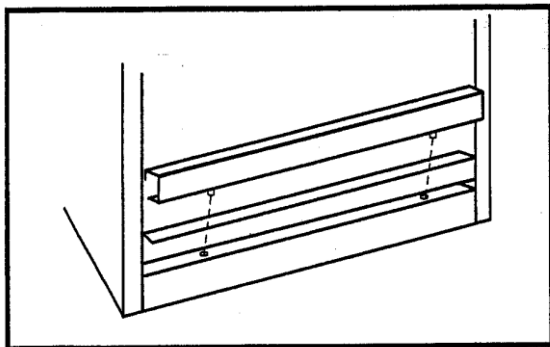

Figure 4
1. Remove the front panel just below the front of the hearth pan. This is accomplished by lifting on the panel. To replace the valve access panel line up the two pins with the holes in the surround bottom and push the panel over the hearth pan. (Refer Figure 4)